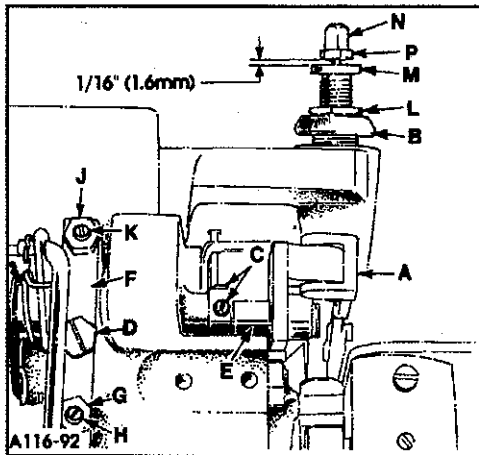

Fig. 17
Position presser arm (A, Fig. 17) in sewing position and lock in place by turning release bushing (B).
Loosen nut (G, Fig. 17) and adjust lifter lever stop screw (H) so the presser foot will not contact the needle driving arm or the upper looper/spreader at any point of travel when the foot lifter lever is completely depressed. Tighten nut (G). Loosen nut (J) and set stop screw (K) so there is approximately 1/16" (1.6mm) free motion in the lifter lever before the presser foot starts to rise. Tighten nut (J).
Sufficient pressure must be maintained to feed work uniformly. Excessive spring pressure will cause the feed dogs and presser foot to wear prematurely when chaining. If it is desirable to increase or decrease the amount of presser foot pressure position, presser arm in sewing position and lock in place. Loosen nut (L, Fig. 17) and turn adjusting screw (M) clockwise to increase pressure or counterclockwise to decrease pressure. Tighten nut (L) loosen cap nut (N) and position nut (P) so there is a 1/16" (1.6mm) clearance between adjusting screw (M) and nut (P). Hold nut (P) in position and tighten cap nut (N).